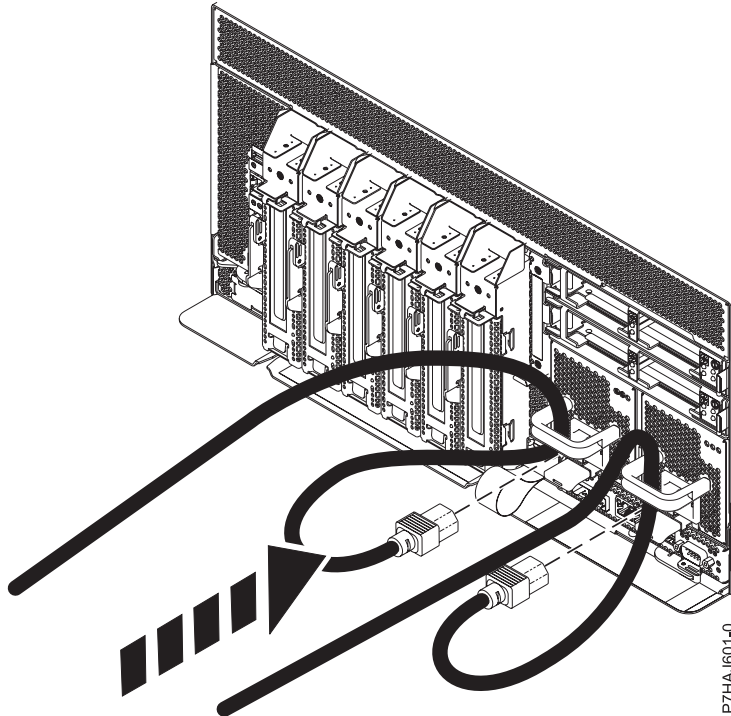

Figure 6. Connecting the power cords
2. Reconnect the power cord to the system unit as shown in Figure 6 on page 21. Ensure that the cords are threaded through the handles.